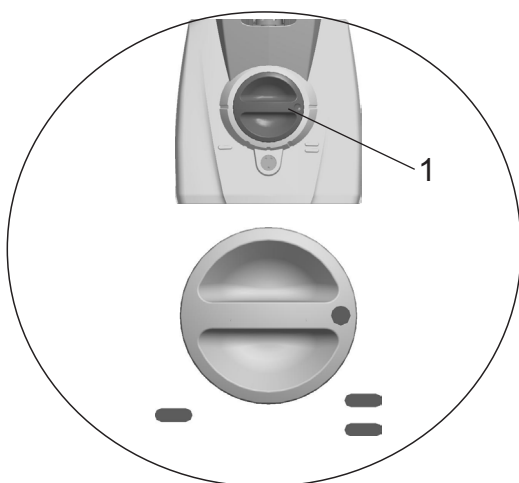

Fig. 5
The stapler is adjustable for 15 or 18 mm staples. The stapler setting for a different staple leg length is altered as follows. Start by adjusting the depth of stapling for deep clinching (=) as shown in Fig. 5.
- Depress the knob (Fig. 5/1) and turn it to any of the five positions.